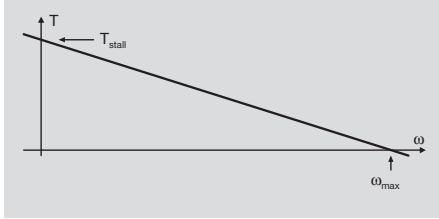

**Figure A.4 Torque vs. Speed Function of a PMDCM**
A general plot of Equation (19) is shown in Figure A.4:
The literal interpretation of the torque vs. speed function as given by Equation (19) or its plot (Figure A.4) is as follows: